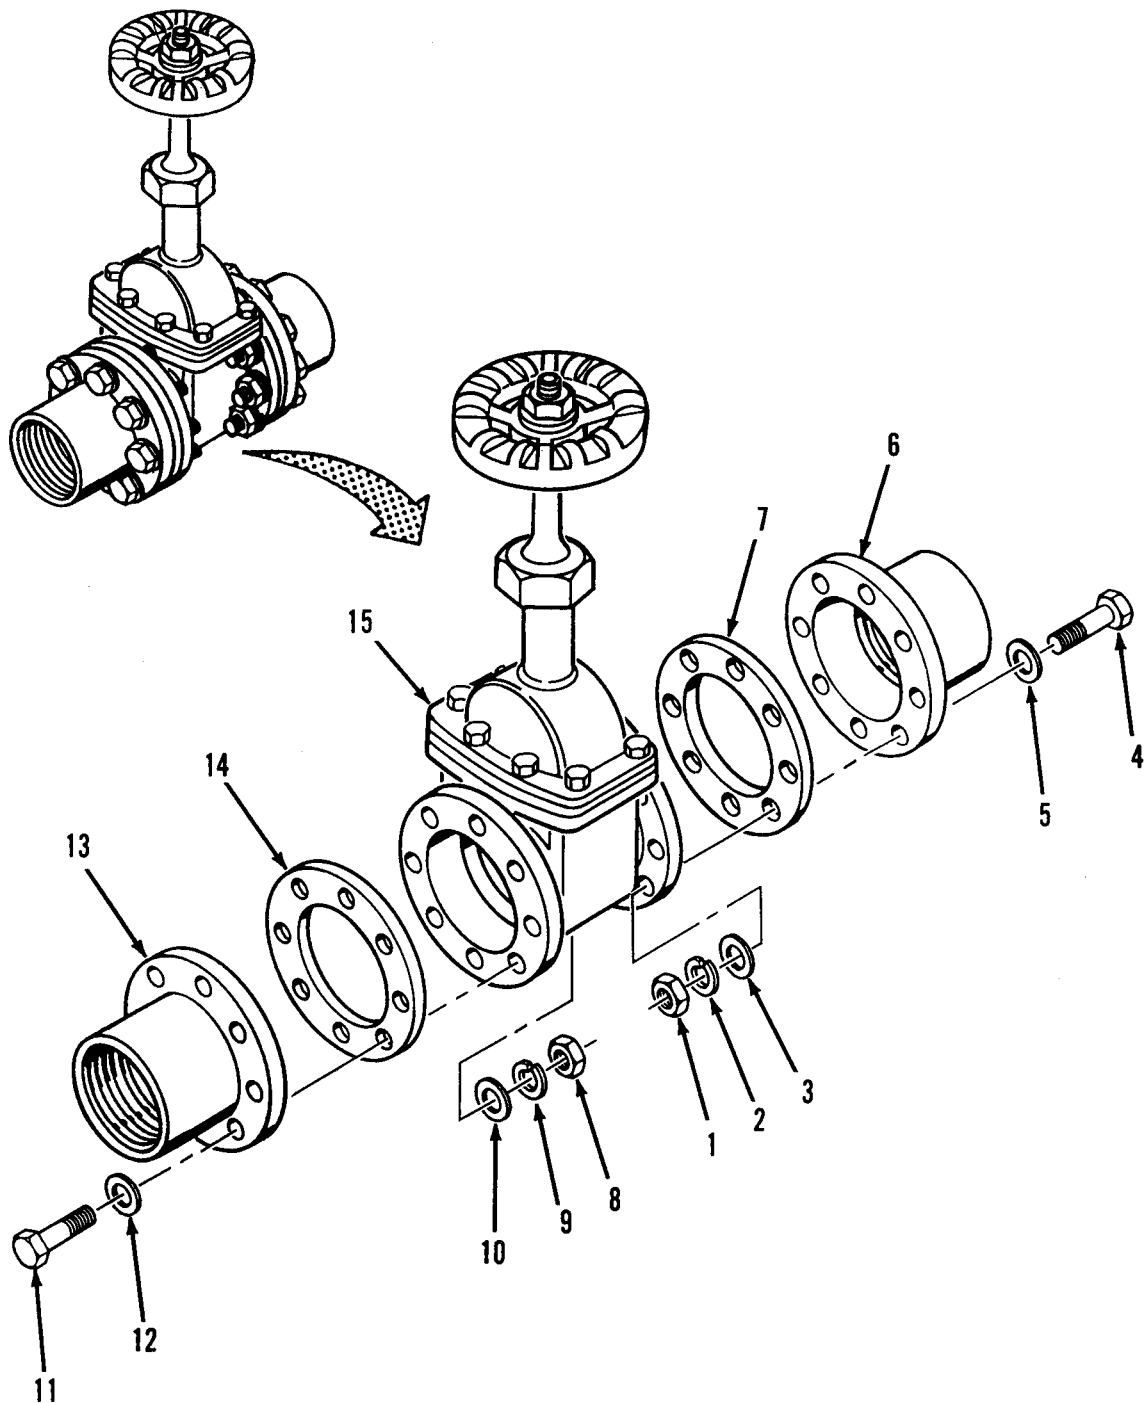

Figure 6-5. Gate Valve Disassembly (Model FIHK-100).
Remove gate valve. Refer to figure 6-5.
- (1) Inspect bonnet (11) and valve body (18) for cracks, scored mating surfaces, stripped threads and corrosion.
- (2) Inspect for bent stem (13) and galled or stripped threads.
- (3) Inspect sealing surfaces of discs (15 and 16) and valve body (18) for deep scratches and cracks.
- (4) Inspect adapters (6 and 13, figure 6-5) for cracks and damaged sealing surfaces.
Install gate valve. Refer to figure 6-5.